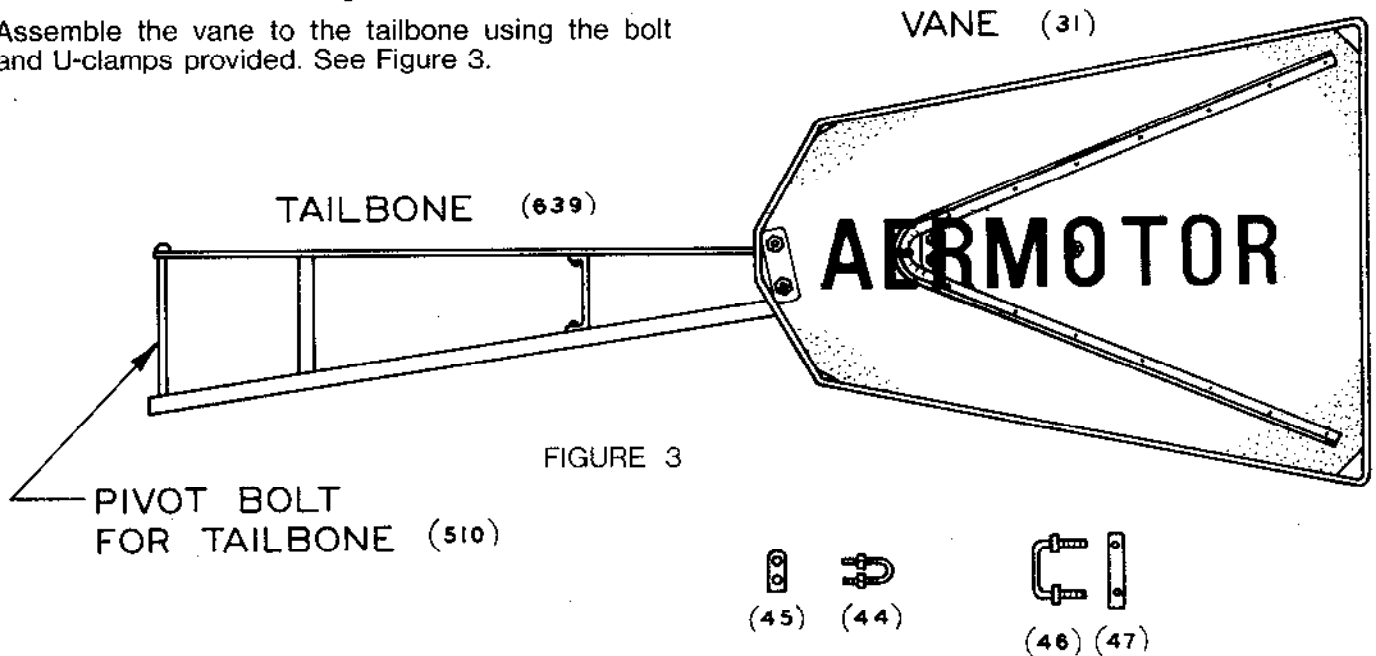

FIGURE 3
Assemble the vane to the tailbone using the bolt and U-clamps provided. See Figure 3.
6. Remove the round pivot bolt #510 from the tailbone (Figure 3) and put it through the lugs on back of the main casting #802 of the crated motor and through the buffer spring brackets #654 and 655.